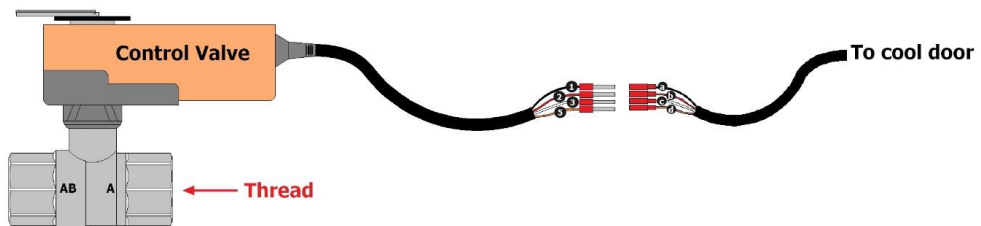

Figure 3-10: Ball Valve
- Power wiring is performed according to the terminal wire colors, as shown in *Figure 3-10*. The ball valve has directionality; direction of water flow is from A to AB. A is connected to the outlet of the soft tube, and AB is connected to the external piping.
| Flow direction (A to AB) | Refer to Figure 3-10 |